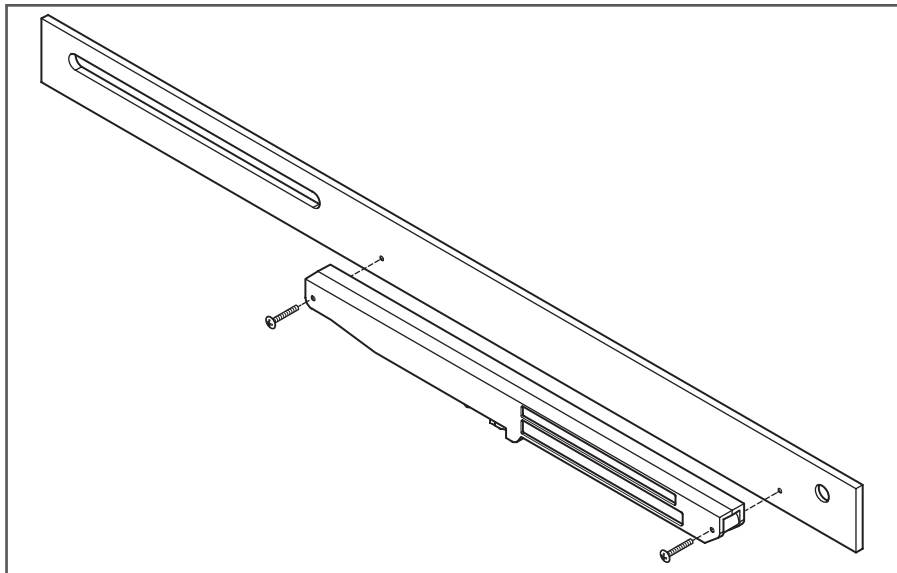

Figure 1
1. Attach the Soft Close Mechanism (A) to The Mounting bracket (B) using two pan head screws (C) (Figure 1). Set aside.